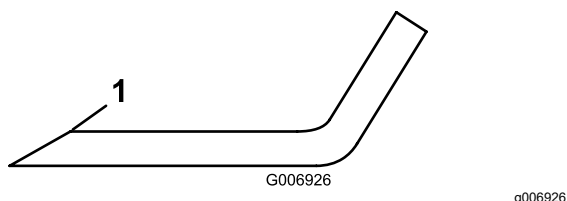

Figure 72
- Inspect the cutting edges of all the blades. Sharpen the cutting edges if they are dull or nicked, sharpen only the top of the cutting edge, and maintain the original cutting angle to ensure sharpness (Figure 72).